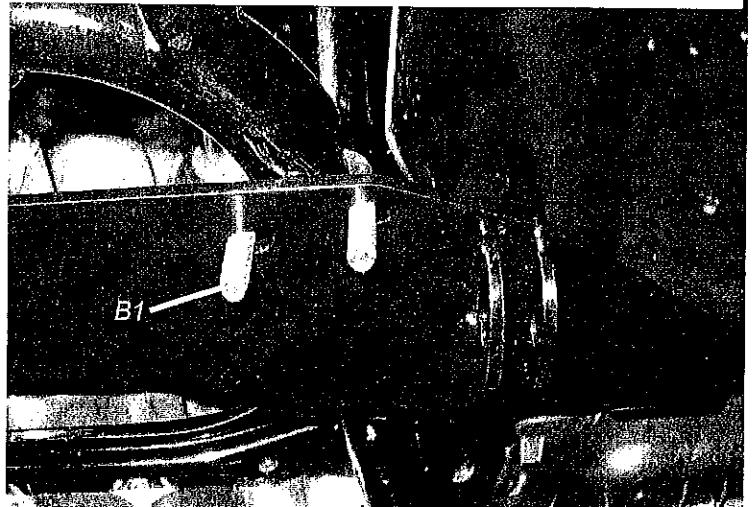

Figure 6 - Check U-Bolt Position
- Place the plow mount back into position on the vehicle. Slide the u-bolts (B1) down around the frame tubes and through the slots in the mounting plate, figure 6. Check the position of the u-bolt in the slot. Remove the plow mount after the u-bolt orientation has been noted.